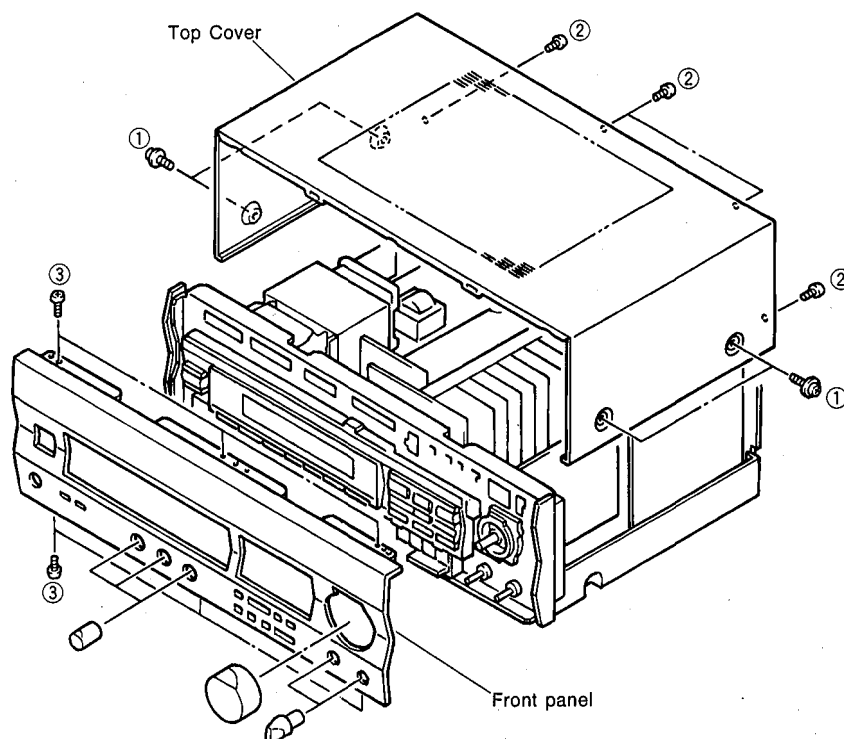

Fig. 1
- a. Remove 4 screws (①) and 4 screws (②) in Fig. 1.
b. Remove 6 screws (③) in Fig. 1.